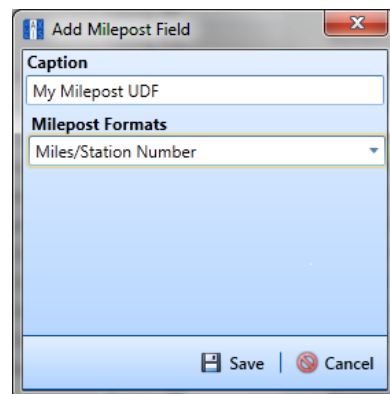

Figure 2-30. Add Milepost Field
- 4 Click  **Milepost** in the toolbar to open the *Add Milepost Field* dialog box (Figure 2-30).